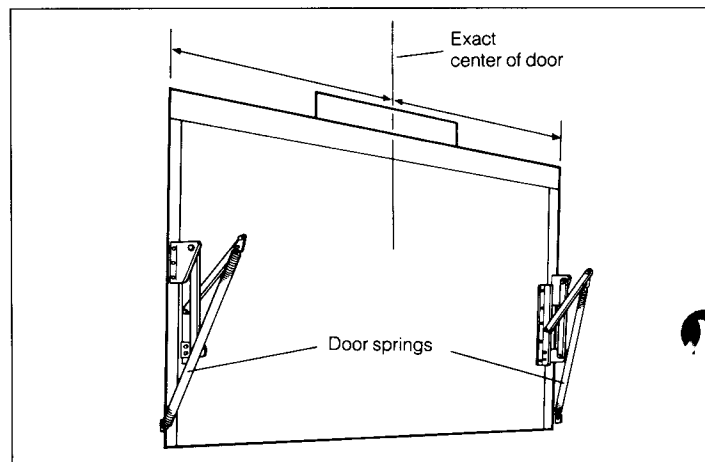

Figure 28
Trackless doors are one-piece doors which employ jamb-type counterbalance hardware as part of the lifting mechanism. They are sometimes called "California" doors. Typically, the one-piece door and its accompanying hardware appear as shown in Figure 28. Note that there is another type of one-piece, trackless door that operates on a pivot. This garage door operator is not recommended for use on the pivot type garage door.
**Step 61:** Establish the exact center of the door and mark that location on the header above the door as shown in Figure 28.